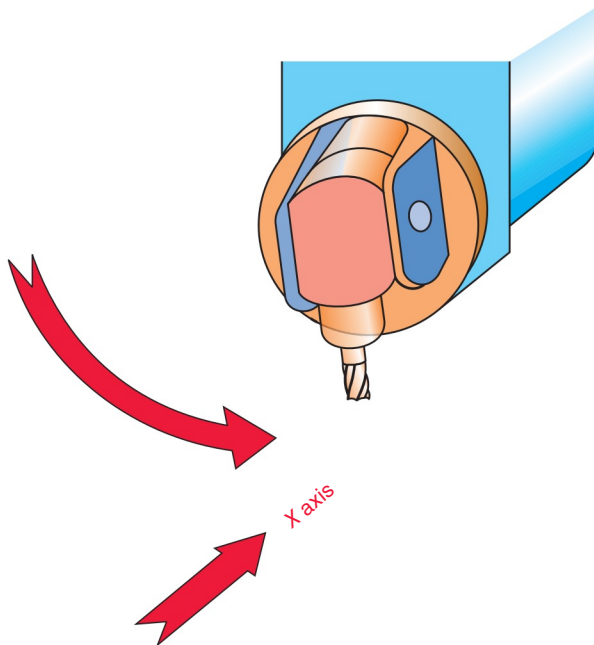

Figure 17-19 Is this a positive or a negative A and B axis motion?
6. This five-axis mill in Fig. 17-19 is rotating its cutter head in the direction indicated. Is this a positive or negative A or B axis movement according to the rule of thumb?